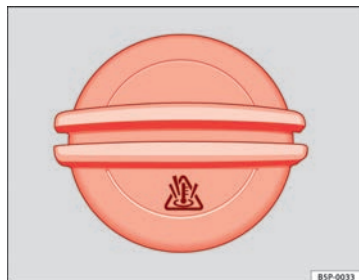

Fig. 175 In the engine compartment: Coolant expansion tank cap
- The coolant expansion tank is easily recognisable because of the symbol  on the cap ⇒ Fig. 175.